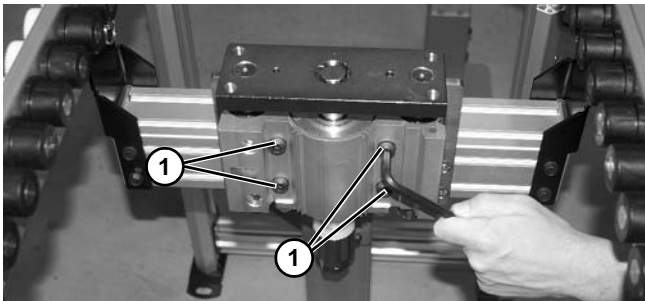

Figure 85
6. Remove four screws (**Figure 85, item 1**) securing cylinder to conveyor frame.